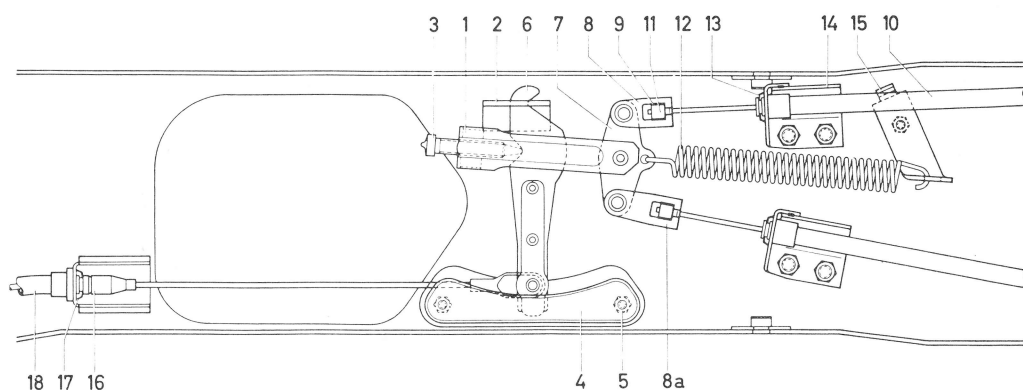

Fig. 2
- 3 Unscrew adjusting screw (3) on adjusting bracket (1) (Fig. 2).